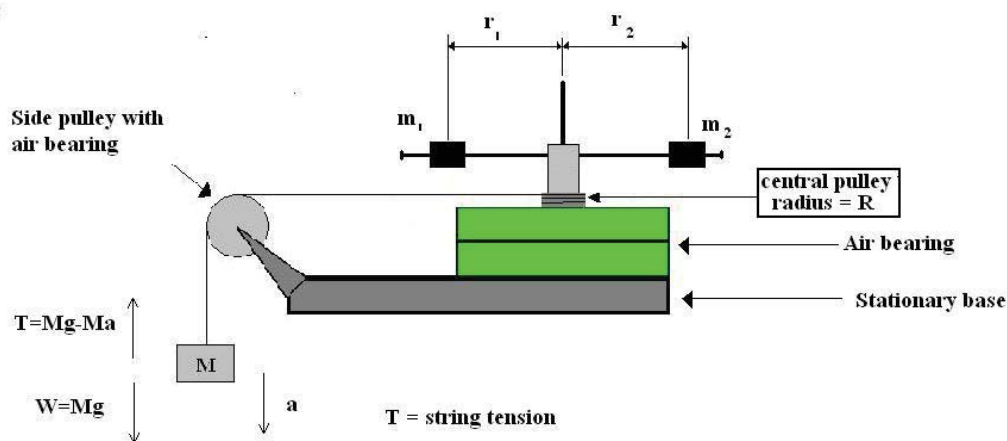
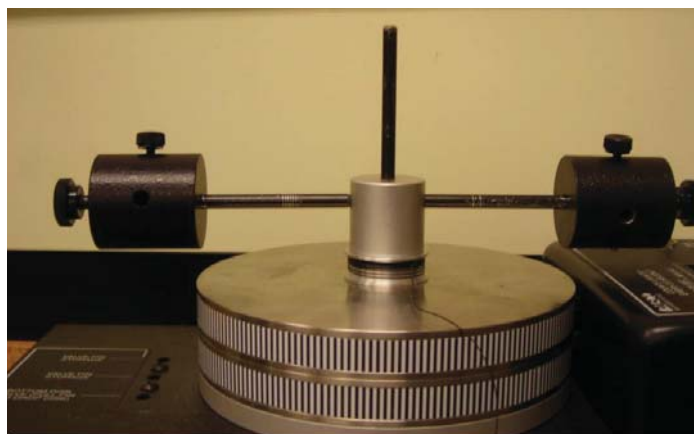

Figure 8.3: Schematic of the moment of inertia apparatus.
Figure 8.5: View of the apparatus with 2 masses at the same radius r .
A schematic of the equipment you will be using today is shown in Fig. 8.3. The masses and rod are supported by a rotating platform attached to a central pulley and nearly frictionless air bearings. If the two masses are placed on the axis of rotation (so $r = 0$), then the measured moment of inertia I is the moment of inertia of the rotating apparatus *alone* plus the moment of inertia of each of the two cylinders about an axis through their own centers of mass, which we'll call I_0 . So when the masses are placed at $r = 0$, $I = I_0$. Now if the two masses are each placed a distance r from the axis of rotation Eq. 8.4 becomes:
To verify that the moment of inertia, I , does indeed depend on how the masses are distributed you will use the apparatus shown in Fig. 8.3 to calculate the angular acceleration, α , and torque, τ , of the rotating masses and then use Eq. 8.2 to calculate I . You will plot your measured I vs. r^2
In order to get your rigid body to rotate you will wrap a string around the central axle (also called the central pulley) and run it over the side pulley to a known weight, M , as shown in Fig. 8.3. When you release the weight from rest just below the side pulley and let it fall to the floor, the tension, T , in the string will exert a torque, τ , on the rigid body causing it to rotate with a constant angular acceleration, α . **NOTE:** Be careful to not mix up the symbol for tension (T) with the symbol for torque (τ) and the symbol for linear acceleration (a) with the symbol for angular acceleration (α) in the following equations.
The tension in the string, T , comes from the weight which is hanging off the side pulley (see Fig. 8.3). By drawing the free-body diagram acting on the hanging mass and using Newton's Second Law, the tension in the string is:
2. Place the cylinders on the horizontal rod such that the axes of the cylinders are along the horizontal rod as far away from the center as possible (as shown in Fig. 8.5). Make sure the thumbscrew on each cylinder is tightened. The center of mass of each cylinder MUST be the same distance (r) from the axis of rotation (i.e. $r_1 = r_2$ in Fig. 8.3).
4. With the air supply on, attach the hanging mass (M) to one end of a string and wind the other end around the central axle (pulley). The string should also pass over the side pulley such that the hanging mass is just below the side pulley as shown in Fig. 8.3. Hold the hanging mass stationary and measure its height (h) using the floor as your reference point. Record this elevation in your spreadsheet and assign an appropriate uncertainty to this measurement. **Make sure to return your mass to this same height for each of your trials.**
6. Calculate the linear acceleration of the falling mass (M) using Eq. 8.8. Use $\delta a = a \left(2\frac{\delta t}{t} + \frac{\delta h}{h} \right)$ to calculate its uncertainty.
7. Use Eq. 8.11 to calculate the tension in the string (T) and $\delta T = T \left(\frac{\delta M}{M} + \frac{\delta a}{g-a} \right)$ to calculate its uncertainty.